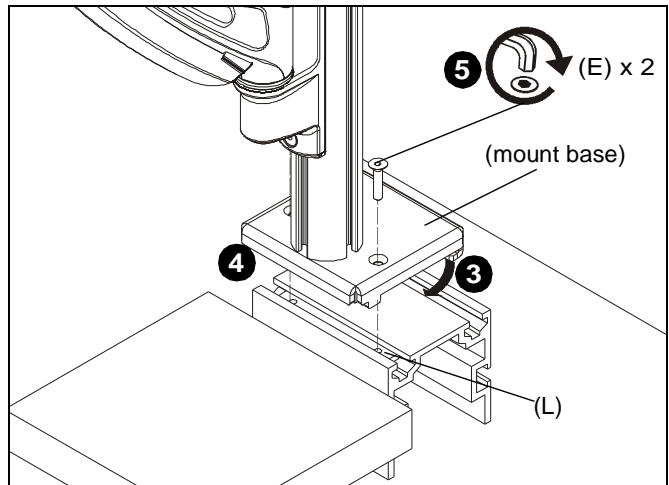

Figure 8
3. Hook back of mount base into back groove of FrameOne™ rail. (See Figure 8)
4. Place mount base onto FrameOne™ rail making sure holes line up with holes on channel plate (L). (See Figure 8)
5. Use two #10-32 x 7/8" flat head cap screws (N) to secure mount base to channel plate (L). (See Figure 8)